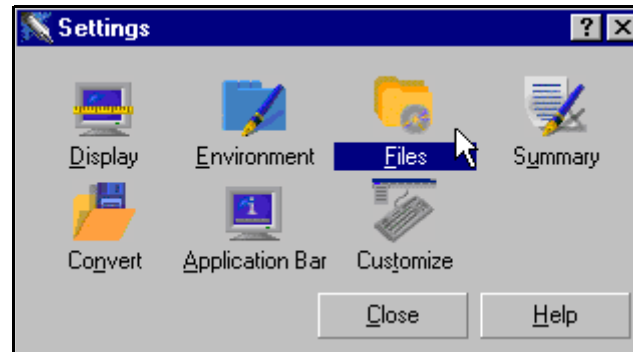

Figure 2-1 Settings Window
2. From the **Tools** menu, select **Settings**. The **Settings** window opens (see Figure 2-1).
17. Click the **O**K button. You return to the **S**ettings window (refer back to Figure 2-1).